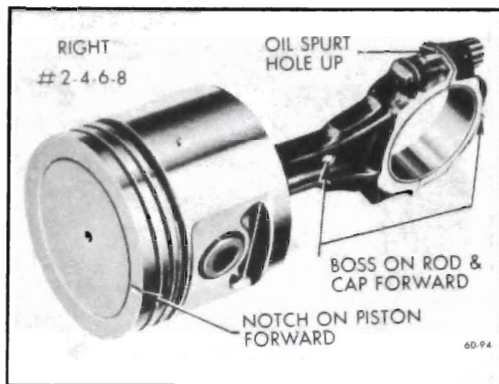

Figure 60-236--Right Bank Piston and Rod Assembly (455 cu.in. Engines)
3. If the piston and rod assembly is to be installed in the *right* bank, the assembly must be made as shown in Figure 60-236.